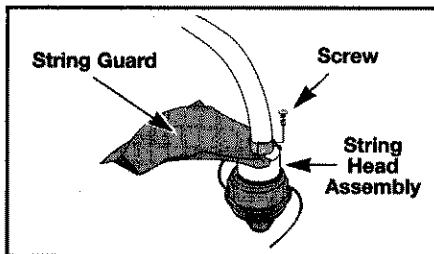

Fig. 5
3. Install the four (4) screws with a Phillips screwdriver (Fig. 5).